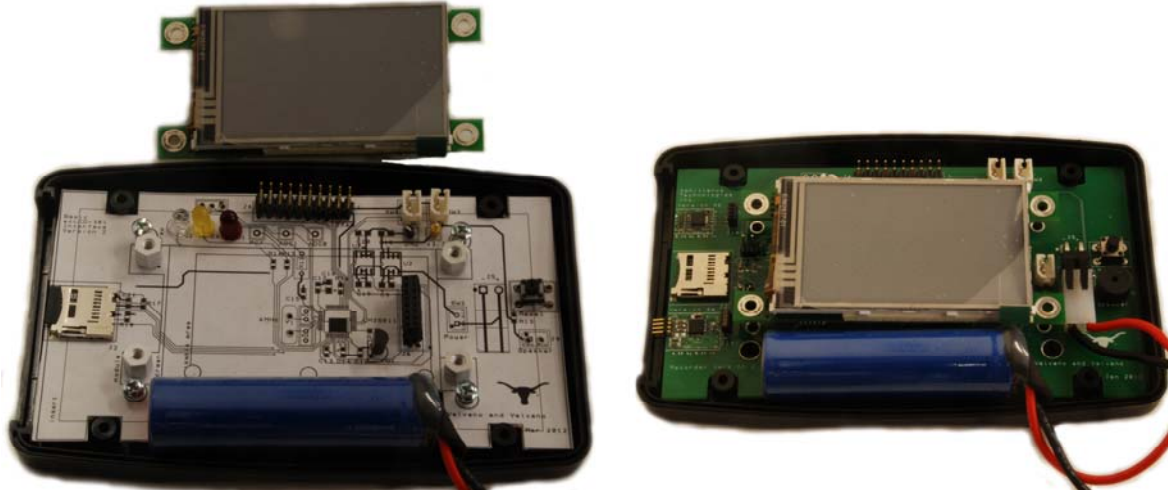

Figure 7.7. Example mockup of layout using paper printout glued on cardboard (LM3S811 into PacTec box).
- 6) Entering the wrong size in Blackboard (see Figure 7.7)